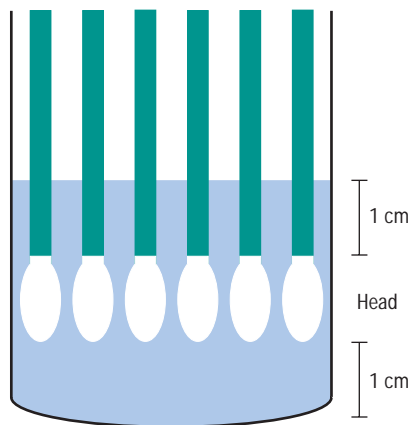

Figure 2: Swab heads suspended in a solvent
- Rinse two clean beakers with solvent to be used. Add enough solvent to one beaker to cover the entire swab head as well as an additional 1 cm of handle, ensuring 1 cm of clearance between the swab heads and the bottom of the beaker (see Figure 2). Place the beaker on the hot plate set up in the fume hood.
- Gently lower the disc so that the swab heads and approximately 1 cm of the handle are submerged in the solvent. Let the swabs soak in the constantly stirred solvent for a period of 10 minutes at $50^{\circ}\text{C} \pm 5^{\circ}\text{C}$ (see Figure 2).